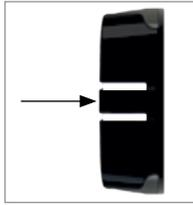

Figure 21
- 2. Long press the iWOC Trio center button to turn the system off (Figure 21).